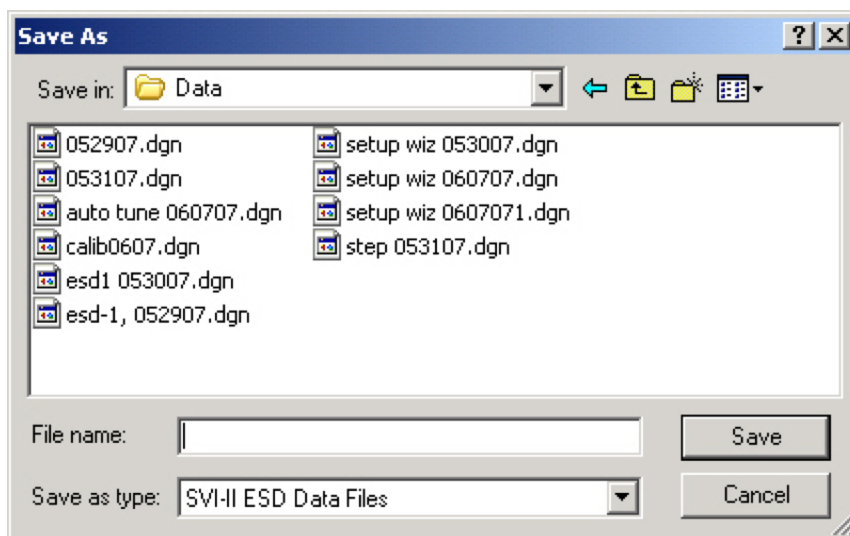

Figure 224 - Selecting a Folder for Saving File
2. Locate the folder in which to save the file, enter a name and click **Save** (*Figure 224*).